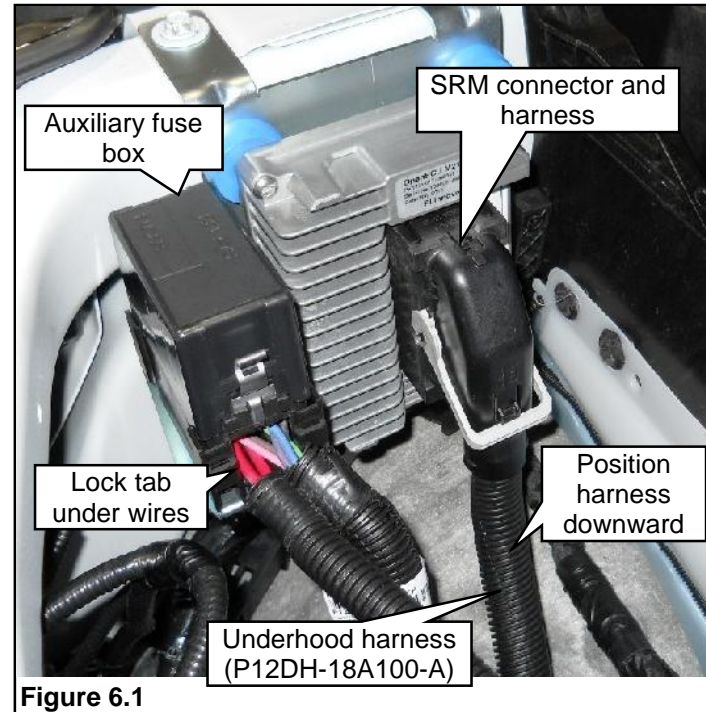

Figure 6.1
2. Attach the SRM connector to the SRM, push the connector into place until fully seated and close the connector latch securely. **Note:** The SRM connector must be oriented downward for proper harness installation. **Figure 6.1.**
3. Position the fuse box (part of harness) onto the bracket and slide it in until locked in place. Check to make sure that the fuse box tabs are fully seated and that the lock tab is latched. **Figure 6.1.**